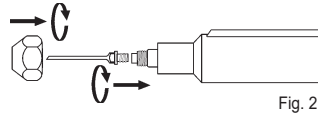

Fig. 2
- Screw the ultrasonic tip onto the ultrasonic hand-piece and tighten it with the wrench for ultrasonic tips (Fig. 2).
- Remove the infusion sleeve and the ultrasonic tip from the ultrasonic handpiece in reverse order as shown in fig. 2 to 3.